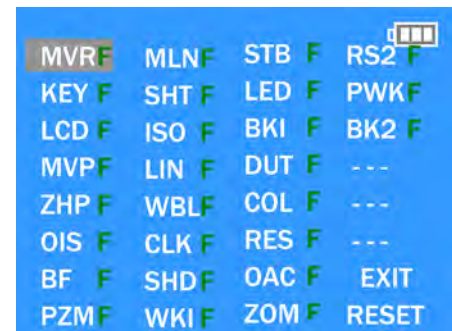

Fig.3-2
1. After pressing the [ DISP. ] button, the LCD monitor displays the Flag status screen (Refer to Fig.3-2)